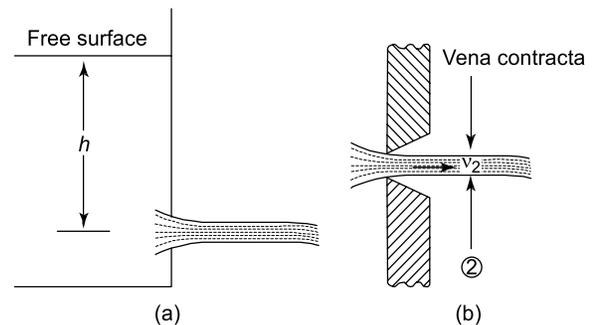

Figure 23.13
Consider the flow of a liquid through a small orifice, as shown in Figures 23.13(a) and (b), where it can be seen that the vena contracta (VC) lies just to the right of the orifice. The cross-sectional area of the fluid is the smallest here and its decrease in area from the orifice is measured by the coefficient of contraction (C_c).
- If in Figure 23.13, $h = 6$ m, $C_c = 0.8$, $C_v = 0.7$, determine the values of C_d and actual v_2 .
- If in Figure 23.13, $h = 10$ m, $C_c = 0.75$, $C_v = 0.65$, and the cross-sectional area is $1.5 \times 10^{-3} \text{m}^2$, determine the discharge and the actual velocity v_2 .